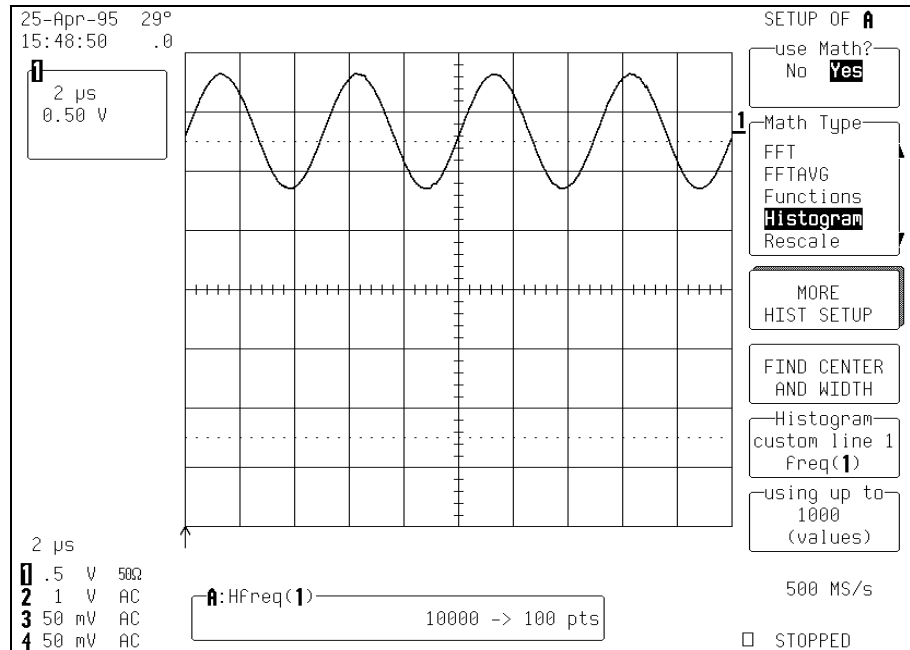

Figure 2.8
**Histogram Trace Setup Menu** *Figure 2.8 (next page)* shows the display when “Histogram” is selected from the “Math Type” menu. Here, the freq parameter only has been defined. However, if additional parameters were to be defined, the individual parameter would need to be selected — by pressing the corresponding menu button or turning the associated knob until the desired parameter appeared in the “Histogram custom line” menu.